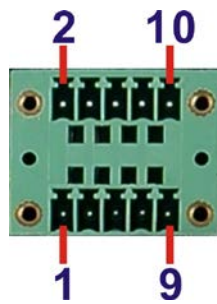

Figure 3-17: DIO Terminal Block Pinout Location
- CN Pinouts:** See **Table 3-4** and **Figure 3-17**